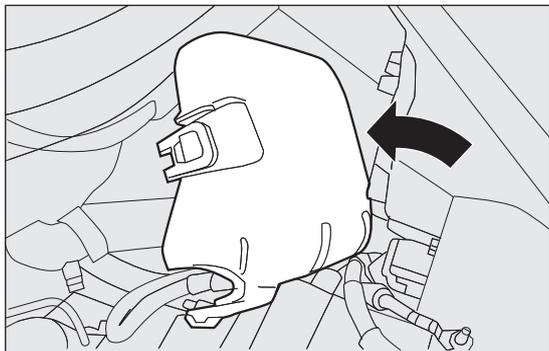

fig. 160
- the fuse box can be accessed in this manner fig. 160.